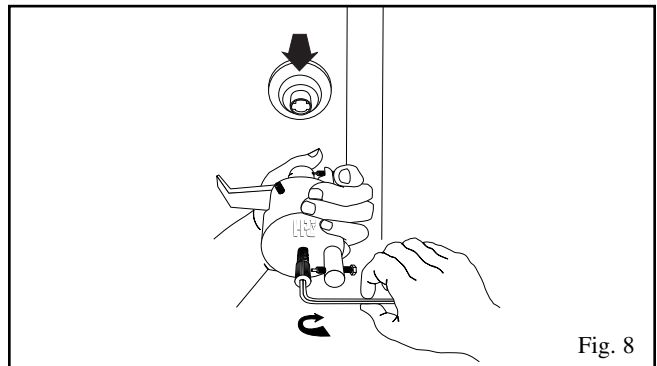

Fig. 8
8. Continue to tighten the Driver Bolt until the lever lock handle can be removed by hand. The cylinder will either be loose within the lever handle or will remain loosely in the chassis (if in the chassis simply remove by hand). See fig. 8.